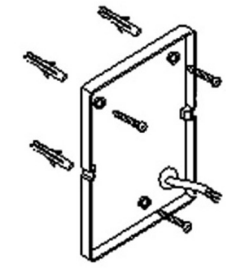

fig. 2
**fig. 2:** Slide the cable through the seal. Align the base plate horizontally by using a bubble level. Mark drill points and remove the base plate. Drill the holes, insert dowels and screw on the base plate. Use suitable material for wooden walls or lightweight walls.